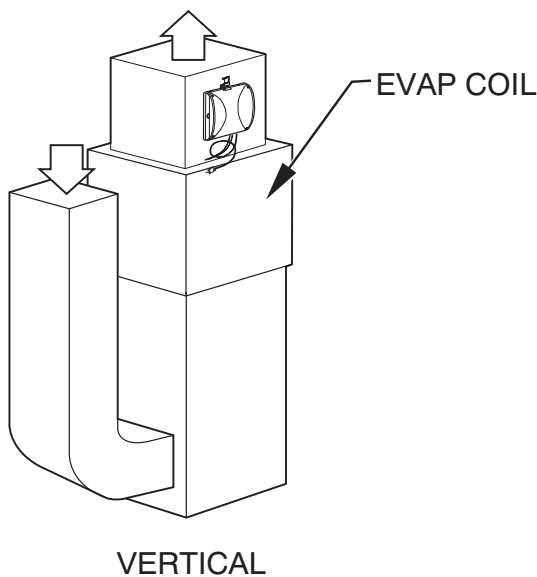

Fig. 3 - Installation Location of Fan-type Humidifier
Step 2 — Select Location (See Fig. 3.)